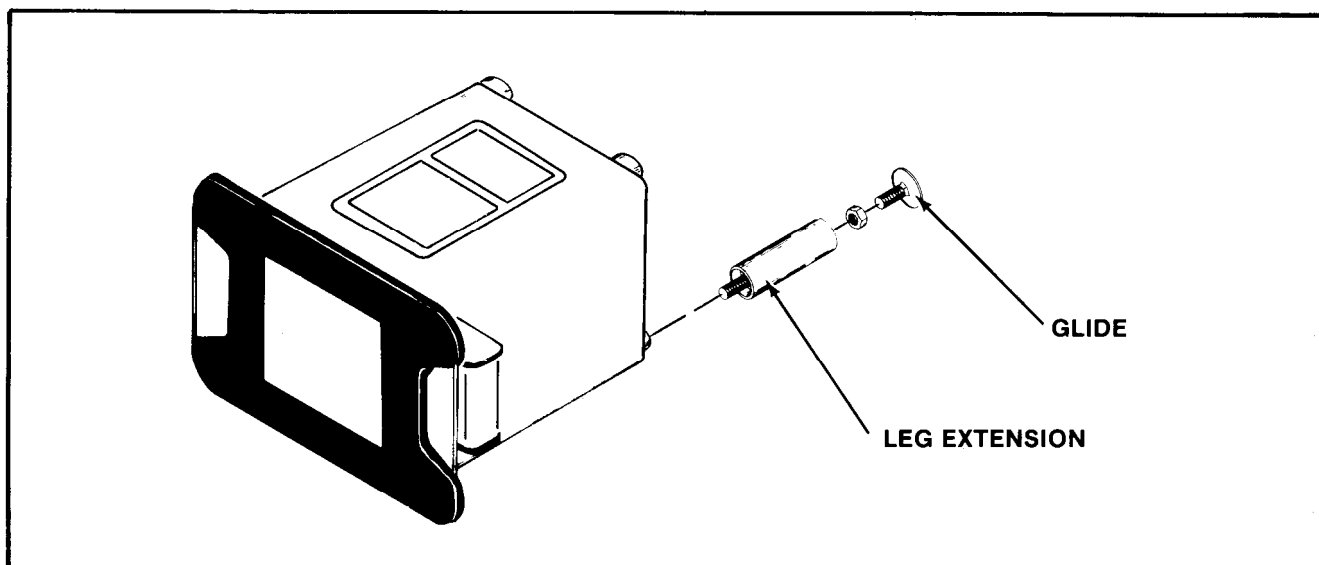

Figure 1-7 Cocktail Table Leg Extension Installation
- C. Install a Leg Extension in each Cocktail Table Leg that you removed a Glide from. See Figure 1-7. **Make sure** they are tightly screwed in place. They **must not** be loose.
- D. Reinsert the 4 Glides into the bottoms of the Leg Extensions you just installed. See Figure 1-7.